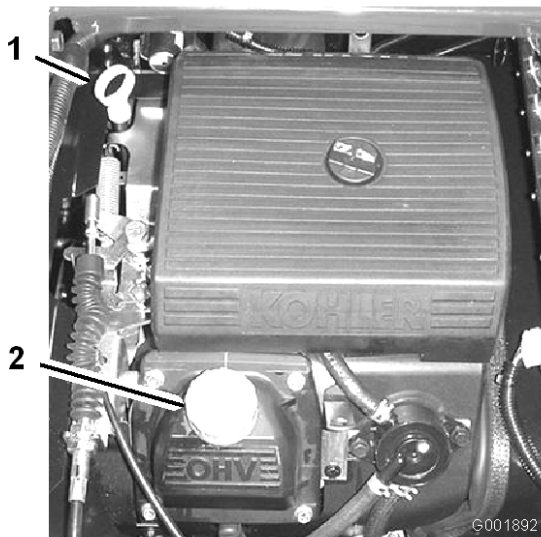

Figure 20
2. Remove the dipstick and wipe it with a clean rag (Figure 20). Insert the dipstick into the tube and make sure it is seated fully. Remove the dipstick and check the oil level.
3. If the oil level is low, remove the filler cap from the valve cover (Figure 20) and pour oil into the opening until the oil level is up to the Full mark on the dipstick; refer to Servicing